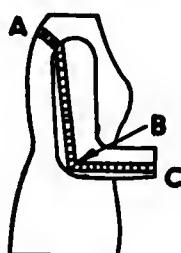

Fig. 31. Sleeve measurements.
- A. Bend the elbow. Measure from the prominent bone at the back of the neck, bringing the tape measure across the tip of the shoulder, down the arm to the elbow (Fig. 31, A-B).
- B. Repeat step A except continue down to the wrist (Fig. 31, A-C).
- C. Measure from the point of the elbow to the wristbone (Fig. 31, B-C).